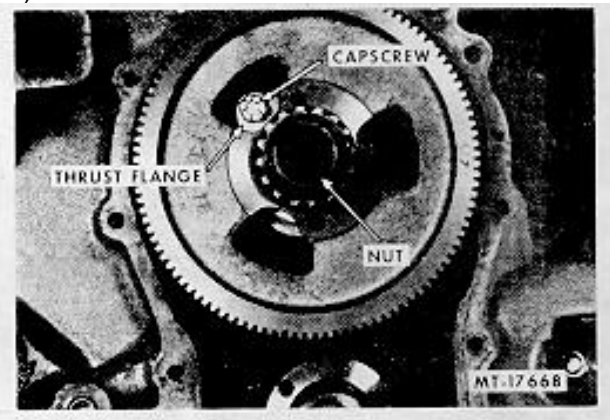

Fig. 52
53. Remove the camshaft thrust flange capscrews (Fig. 52).